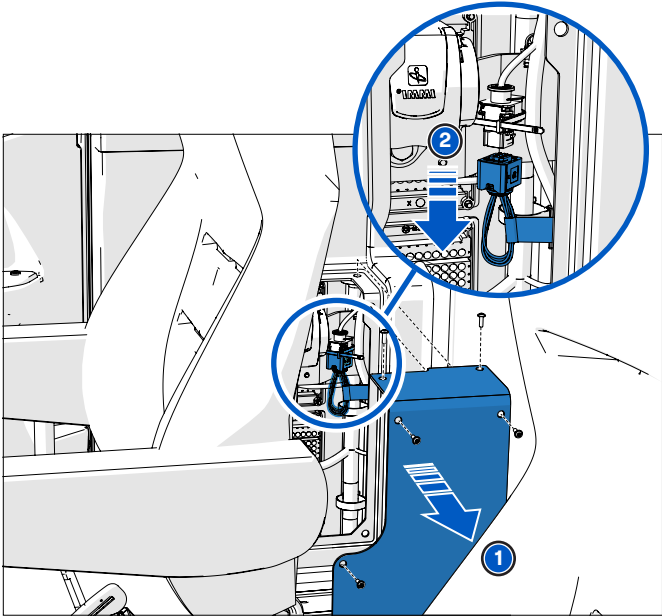

Figure 35 - Liquid Spring Safety connectors
Before performing any work beneath the vehicle, always deactivate the vehicle's hydraulic suspension system by disconnecting the suspension's safety interlock connector behind the passenger seat (see Figure 35).
4. Remove the hydraulic suspension system safety connector, which is located under an access panel behind the passenger seat (**Figure 35**).